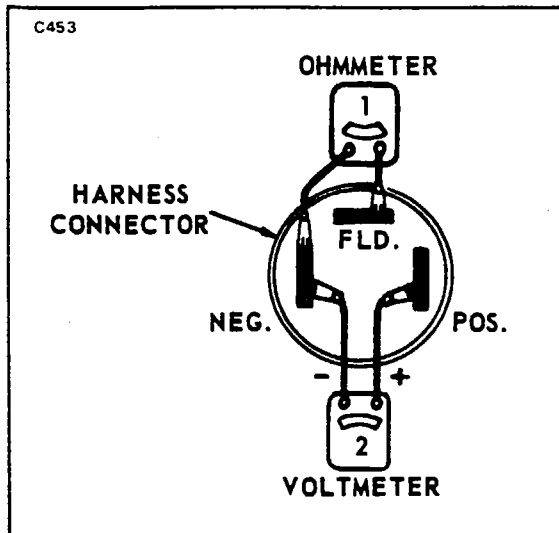

Figure 11-12. Volt-Ohmmeter Test
a. Check the alternator field resistance with an ohmmeter as shown in Step 1, Figure 11-12, and note the reading. Make sure the master switch is OFF. Readings of less than 2 ohms or more than 8 ohms indicate a defective field winding in the alternator or a defective wiring harness. If the reading is within the 2 to 8-ohm range, check the reading against the allowable resistance in the circuit, which can be calculated by dividing the specified voltage for the alternator by the current rating. The specified voltage and the current rating values are found in paragraph 11-19.
b. With switch turned ON, connect voltmeter as shown in Step 2, Figure 11-12. Make sure positive (+) and negative (-) voltmeter leads are connected as shown.